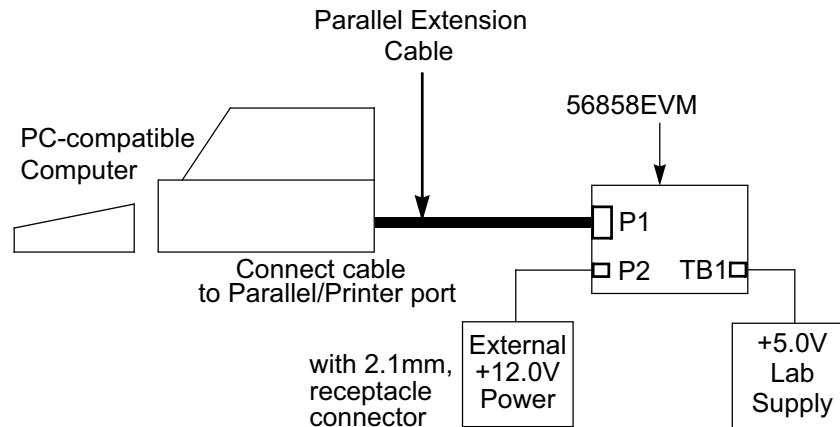

Figure 1-3. Connecting the 56858EVM Cables
An interconnection diagram is shown in **Figure 1-3** for connecting the PC and the external +12.0V DC/AC power supply or external +5.0V DC lab power supply to the 56858EVM board.
2. Connect the other end of the parallel extension cable to P1, shown in **Figure 1-3**, on the 56858EVM board. This provides the connection which allows the host computer to control the board.
4. Connect the 2.1mm output power plug from the external switching power supply into P2, shown in **Figure 1-3**, on the 56858EVM board. Optionally, attach an external +5.0V DC lab power supply via the 2-pin terminal block, TB1.